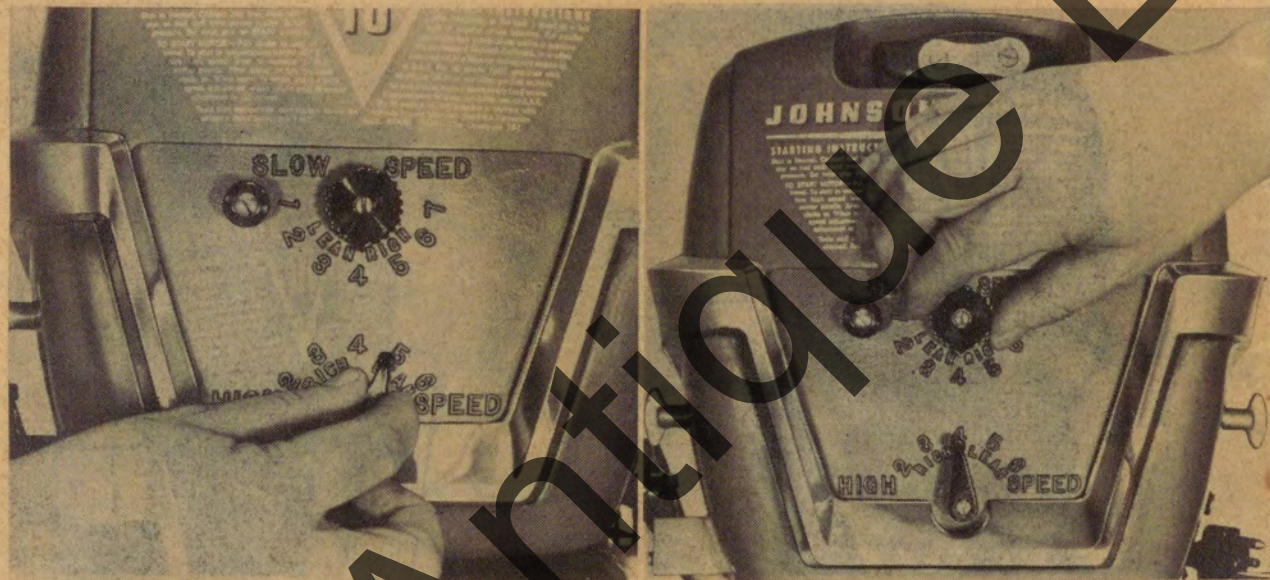

Figure 13
8. When in "forward" turn speed control grip toward position "fast" to gain speed, adjust high speed needle lever (Fig. 13) in fast position by turning to right or left as required.
(Must be performed only after final slow speed adjustment has been made). Start motor as instructed—run at “fast” speed until normal operating temperature has been reached. Turn lever to left or right as required to obtain best setting for top speed performance. Rearrange lever as described above to position Number 4 on panel—see Fig. 13.